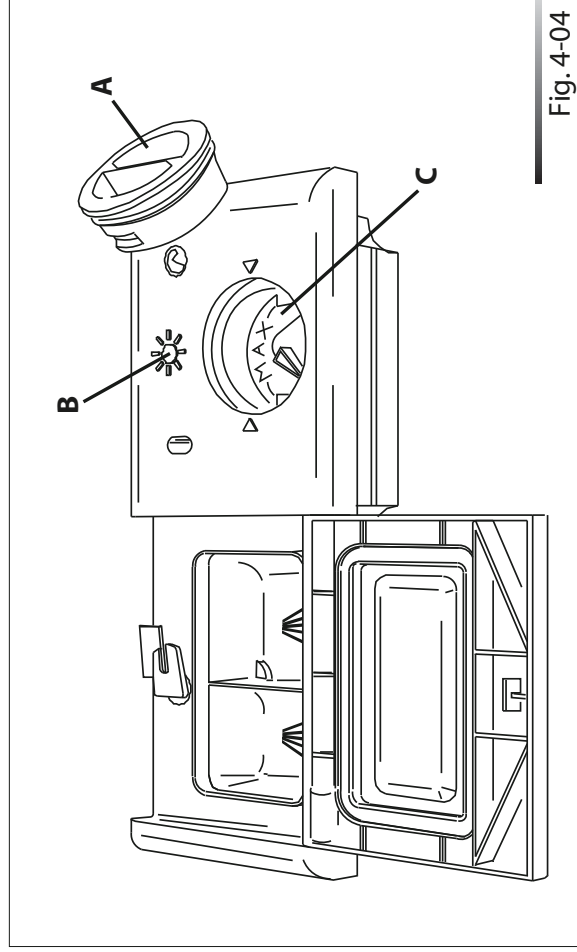

Fig. 4-04
- Rotate the container cover (ref. A fig. 4-04) anticlockwise by $\frac{1}{4}$ of a turn and re-move it.
- Add the rinse aid until the container is full (approximately 140 ml). The optical level indicator (ref. B fig. 4-04), on the side of the cap should be completely obscured. Refill the rinse aid when the optical level indicator becomes clear again, or when the rinse aid warning light illuminates (see "Description of controls" manual).
The rinse-aid dispenser can be set to one of 6 different levels. The dishwasher is factory set for medium water hardness (selector set to "3"). To change the setting, turn the dispenser selector (ref. c fig. 4-04) to the desired position: the amount of rinse-aid dispensed is proportional to the position of this selector. Make sure that the minimum amount of rinse-aid (selector turned to "1") is approximately 1 ml and the maximum amount (selector turned to "6") is approximately 6 ml.
- To adjust the rinse aid setting, rotate the dispenser cover (ref. A fig. 4-04) through a quarter turn in an anticlockwise direction and remove it.
- Replace the cover (ref. A fig. 4-04) by turning it in a clockwise direction until it is fully closed.